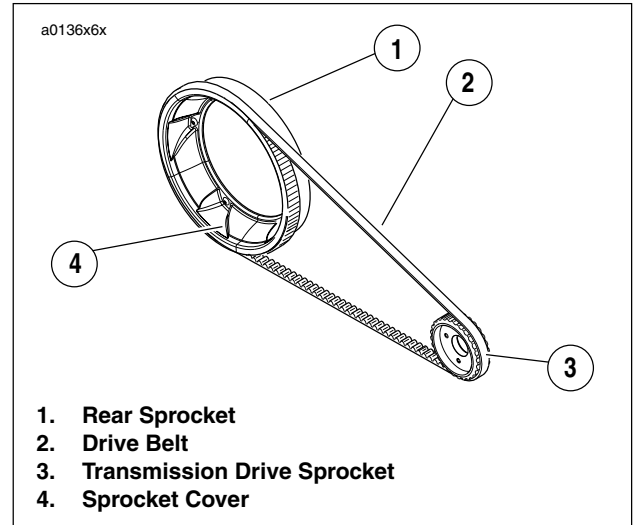

Figure 6-8. Secondary Drive Belt Assembly
1. See Figure 6-8. Inspect each tooth of rear sprocket for: